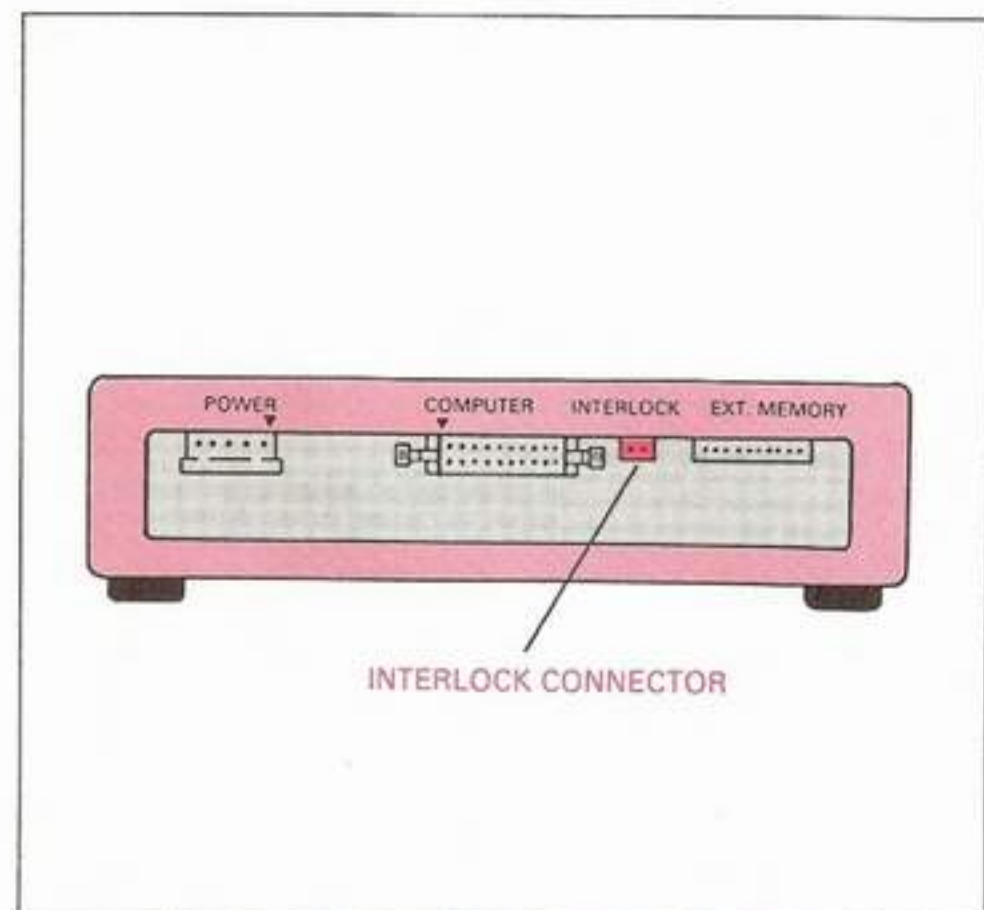

Fig. 85: The Pro-Arm's Interlock Connector
- ___ a. While checking the system installation and interfacing, plug one of the wired, 2-pin connectors (supplied) into the Pro-Arm's Interlock Connector shown in Fig. 85. Make sure that the two wires are not touching each other.